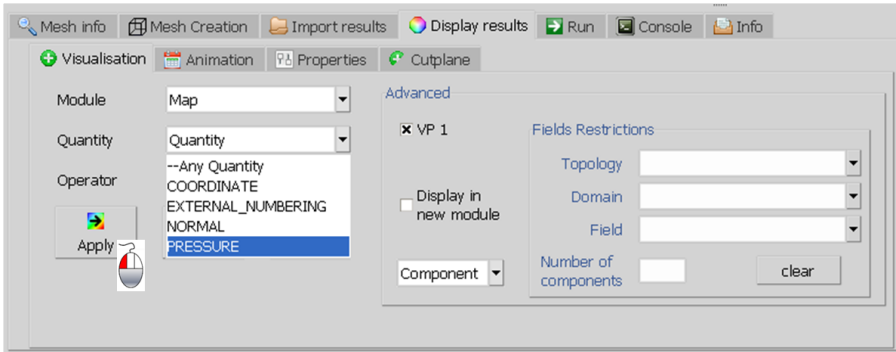

Figure 6.50: Plot the pressure results in color map
- In the Display results tab, the quantity "PRESSURE" is automatically selected (as the last one imported) in the Quantity field (Figure 6.50);